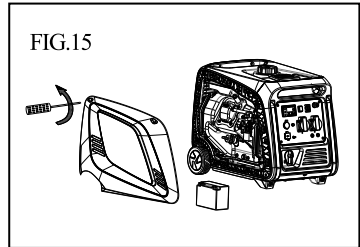

FIG.15
- Loosen the screw and remove the battery cover. **FIG.15**